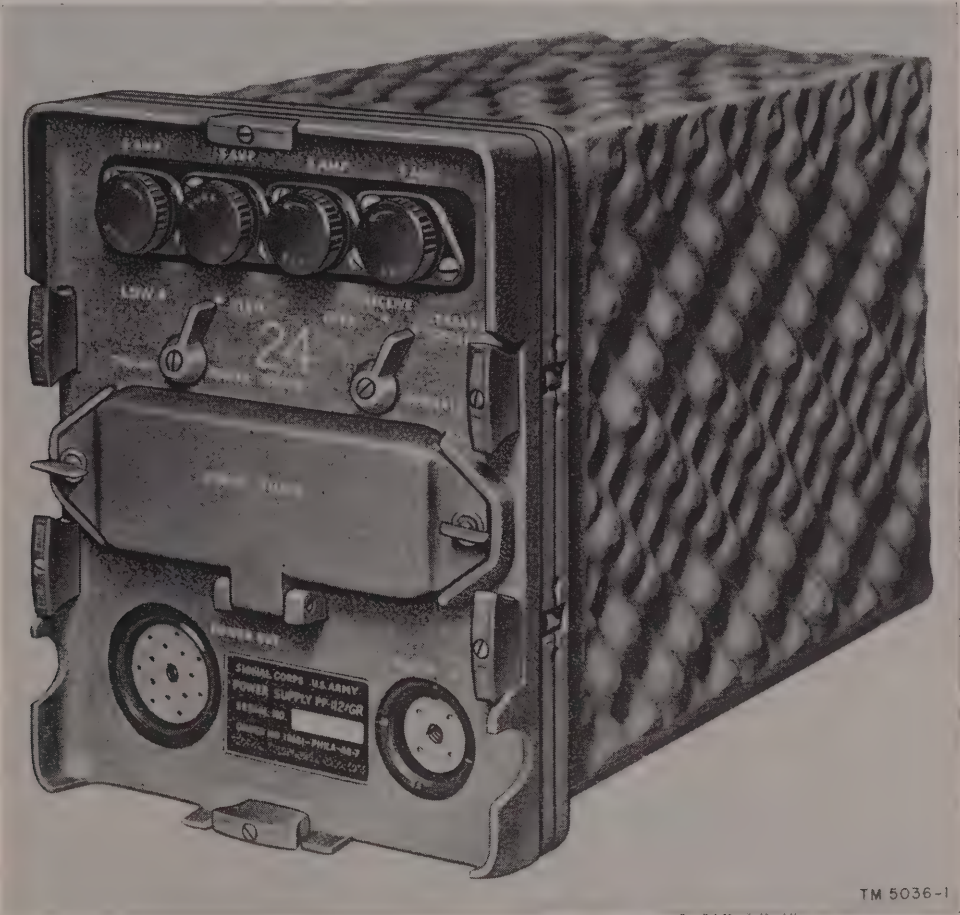

Figure 5. Power Supply PP-112/GRC.
a. Either Power Supply PP-109/GR or PP-112/GR is used to furnish operating voltages for the receiver-transmitter, depending on whether the vehicular storage battery supplies 12 or 24 volts, respectively. The two units are similar externally (fig. 5). They differ internally only in those circuits necessary to convert the storage battery voltage to the proper operating voltages for the receiver-transmitter. Detailed information on the power supplies is contained in TM 11-5036.
b. The power supplies develop plate, screen, bias, filament, microphone, and relay potentials for the receiver-transmitter. The plate, screen, and bias voltages are developed by vibrator-type power-supply circuits. Input battery voltage is supplied through a POWER IN receptacle on the front panel (fig. 5); all output voltages are available at the POWER OUT receptacle on the front panel.